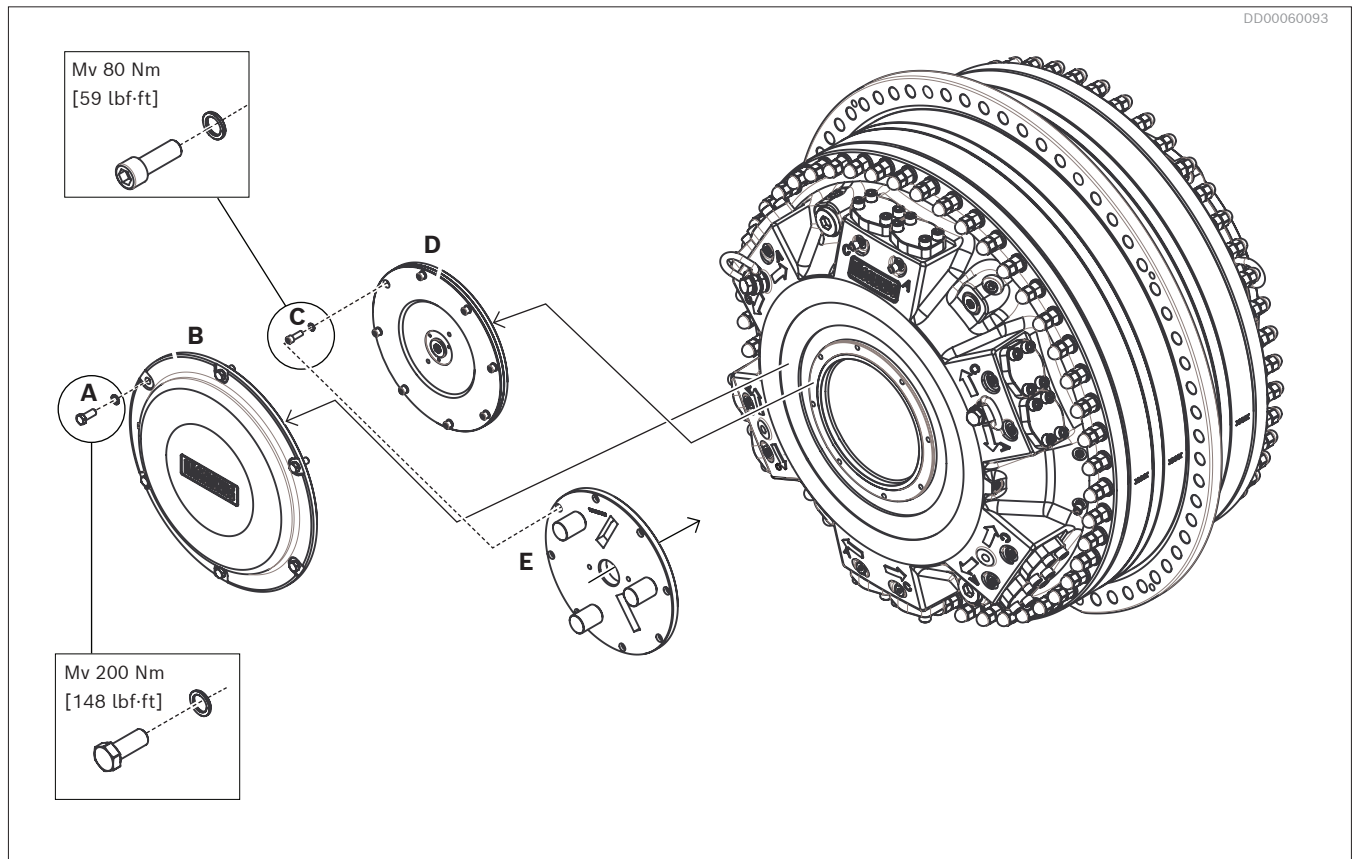

Fig. 16: Mounting the spline alignment tool
Step 1 to 3 above in reverse order to remove the tool. Tightening torque according to Fig. 16.